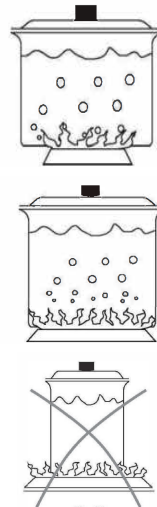

Fig. 12
**You should use pans with the right diameter to fit the burner, in order to make the most out of it, thus reducing gas consumption as in Fig 12. •**